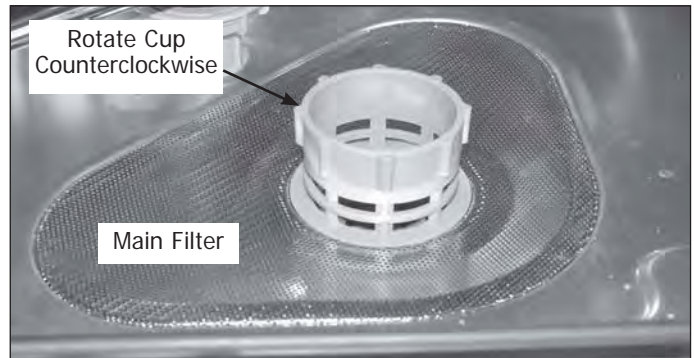

Figure 4-15.
2. Rotate the cup counterclockwise until free of lock, then pull out of filter cavity. (See Figure 4-15)